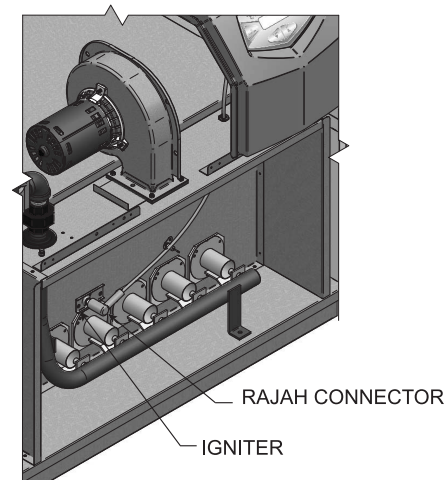

Figure 2-5 Igniter Replacement
- d) Disconnect the rajah connector from the igniter (FIG. 2-5).